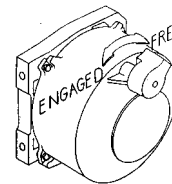

Figure 11
Rotate the clutch lever to the "Free" position as shown in Figure 11. If there is a load on the wire rope, the clutch lever may not turn easily. DO NOT FORCE THE CLUTCH LEVER. Release tension on the wire rope by jogging out some of the wire rope, then try releasing the clutch. Pull out the wire rope and secure to anchor or load. Check that there are at least five (5) turns of wire rope left on the drum. Re-engage the drum by rotating the clutch lever to the "Engaged" position (see Figure 11).